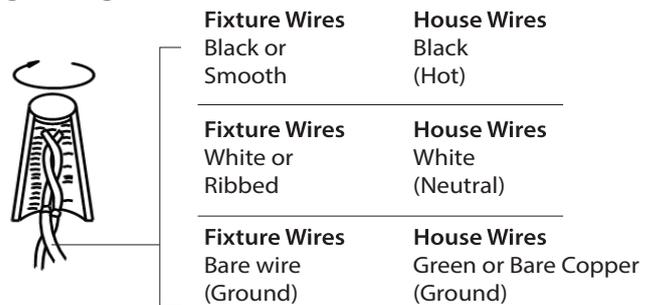

Fig.3 Sealing
7. Secure the fixture to the mounting plate use the mounting screw (B) and rubber gasket(C).
10. To prevent moisture from entering the outlet box and causing a short, use clear caulking(i.e. indoor/outdoor silicone sealant) to outline the the bottom to allow the moisture to escape (Fig. 3).